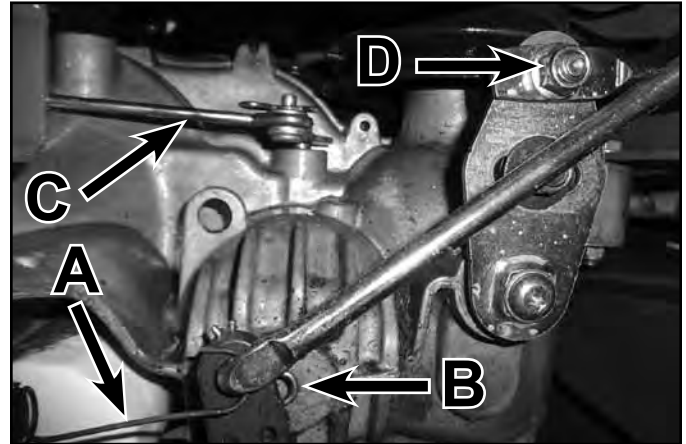

Fig. 091
8. Install the parking brake return spring (A).
9. Install the brake rod into the hydro arm and insert the retaining pin (B).
10. Install the hydro bypass rod, washer and retaining clip (C).
11. Install the hydro control rod nut and bolt (D) and torque to specification - 17 ft-lbs. (23 Nm) (Fig. 091).